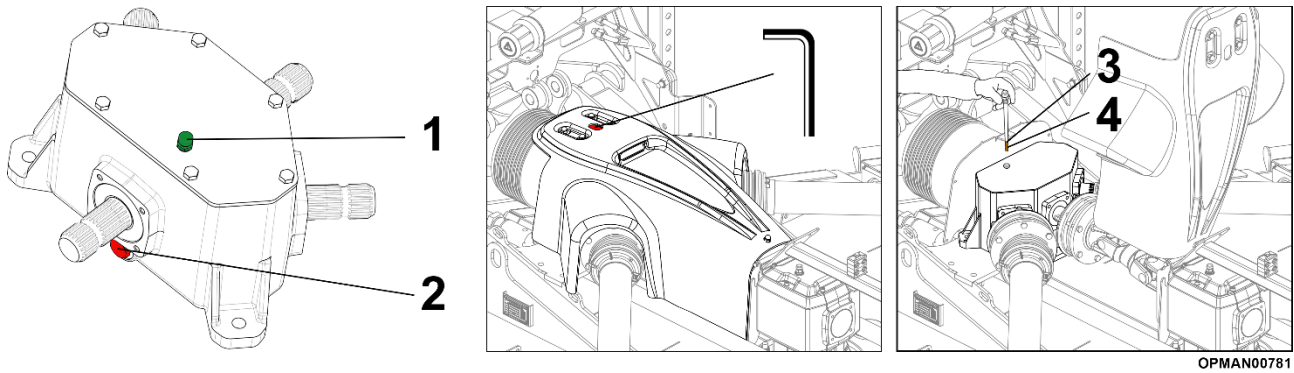

Figure 5.2 – Stubble Master Splitter Gearbox
The quantity of oil to use in each of the respective gearboxes is determined by the filling marks on the dipstick and the guide quantity to the amount of oil required for the particular gearbox is given approximately in Table 5.1. The quantity of oil to use in each of the respective gearboxes is determined by the filling marks on the dipstick and the guide quantity to the amount of oil required for the particular gearbox is given approximately in the table below. There are grooves marked in the dipstick with Figures 5.2 (3) and 5.3 (3) showing the upper level and Figures 5.2 (4) and 5.3 (4) showing the lower level.
To drain the oil, each of the gearboxes is fitted with a **drain plug**. With reference to Figures 5.2 (2) and 5.3 (2), the locations of these drain plugs can vary. If there are facilities to vacuum draw the oil out of the respective gearbox, the oil can be changed through the fill hole/dipstick location instead which is considerably easier.
The positioning of the dipstick can vary between gearboxes to check the oil level, due to their engineering restrictions; see Figures 5.2 (1) and 5.3 (1). However, they should always be at the top.
The gearbox should not require additional lubricant unless the box is cracked or a seal is leaking. It is recommended that the oil level is **checked every day before operation** and additional oil added if it's required to bring it up to the upper level mark, see Figures 5.2 (3) and 5.3 (3), **before proceeding to use the machine**. At all times the oil level should be above the lower fill mark; see Figures 5.2 (4) and 5.3 (4) as otherwise permanent damage could be caused to the gearbox.
Stubble Master splitter box gearboxes have a guard to protect the casing. In order to check the oil level in this gearbox requires the removal of the centre socket cap bolt to hinge the guard open to access the gearbox dipstick; see Figure 5.2.